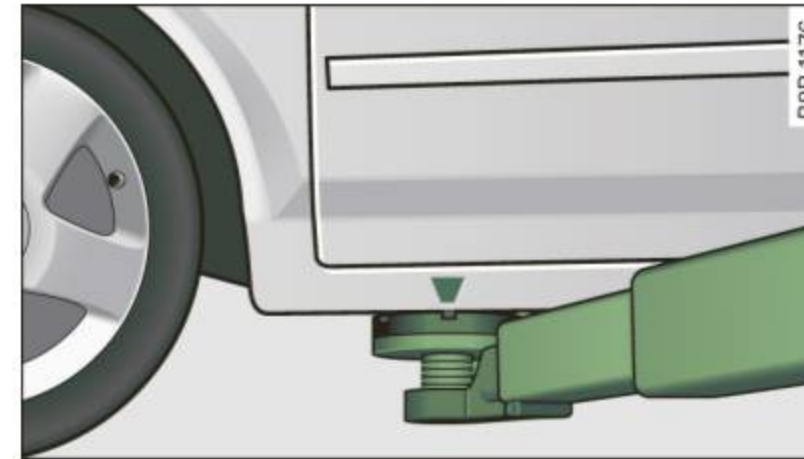
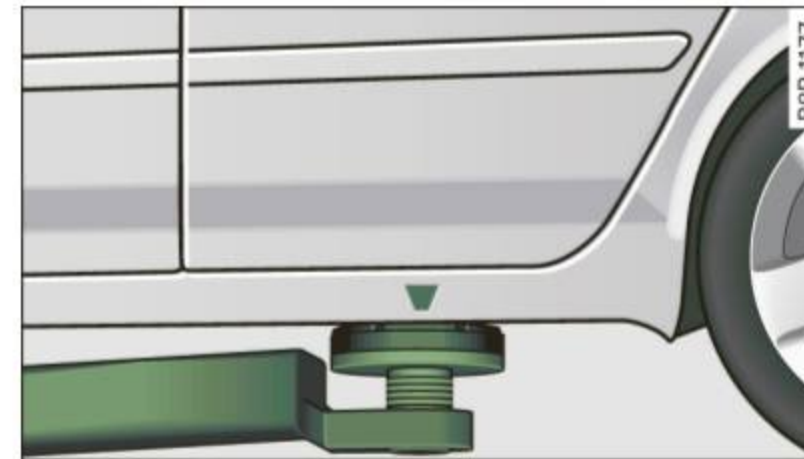

Fig. 203 Front lifting point
Fig. 204 Rear lifting point
- Always lift the vehicle only at the special workshop hoist and floor jack lift points illustrated ⇒ fig. 203 and ⇒ fig. 204.
- Locate lifting points ⇒ fig. 203 ⇒ fig. 204.
The lifting point is located on the floor pan reinforcement about at the same level as the jack mounting point ⇒ *page 292*, fig. 203. **Do not lift the vehicle at the vertical sill reinforcement.**
The lifting point is located on the vertical reinforcement of the lower sill for the onboard jack ⇒ *page 292*, fig. 204.